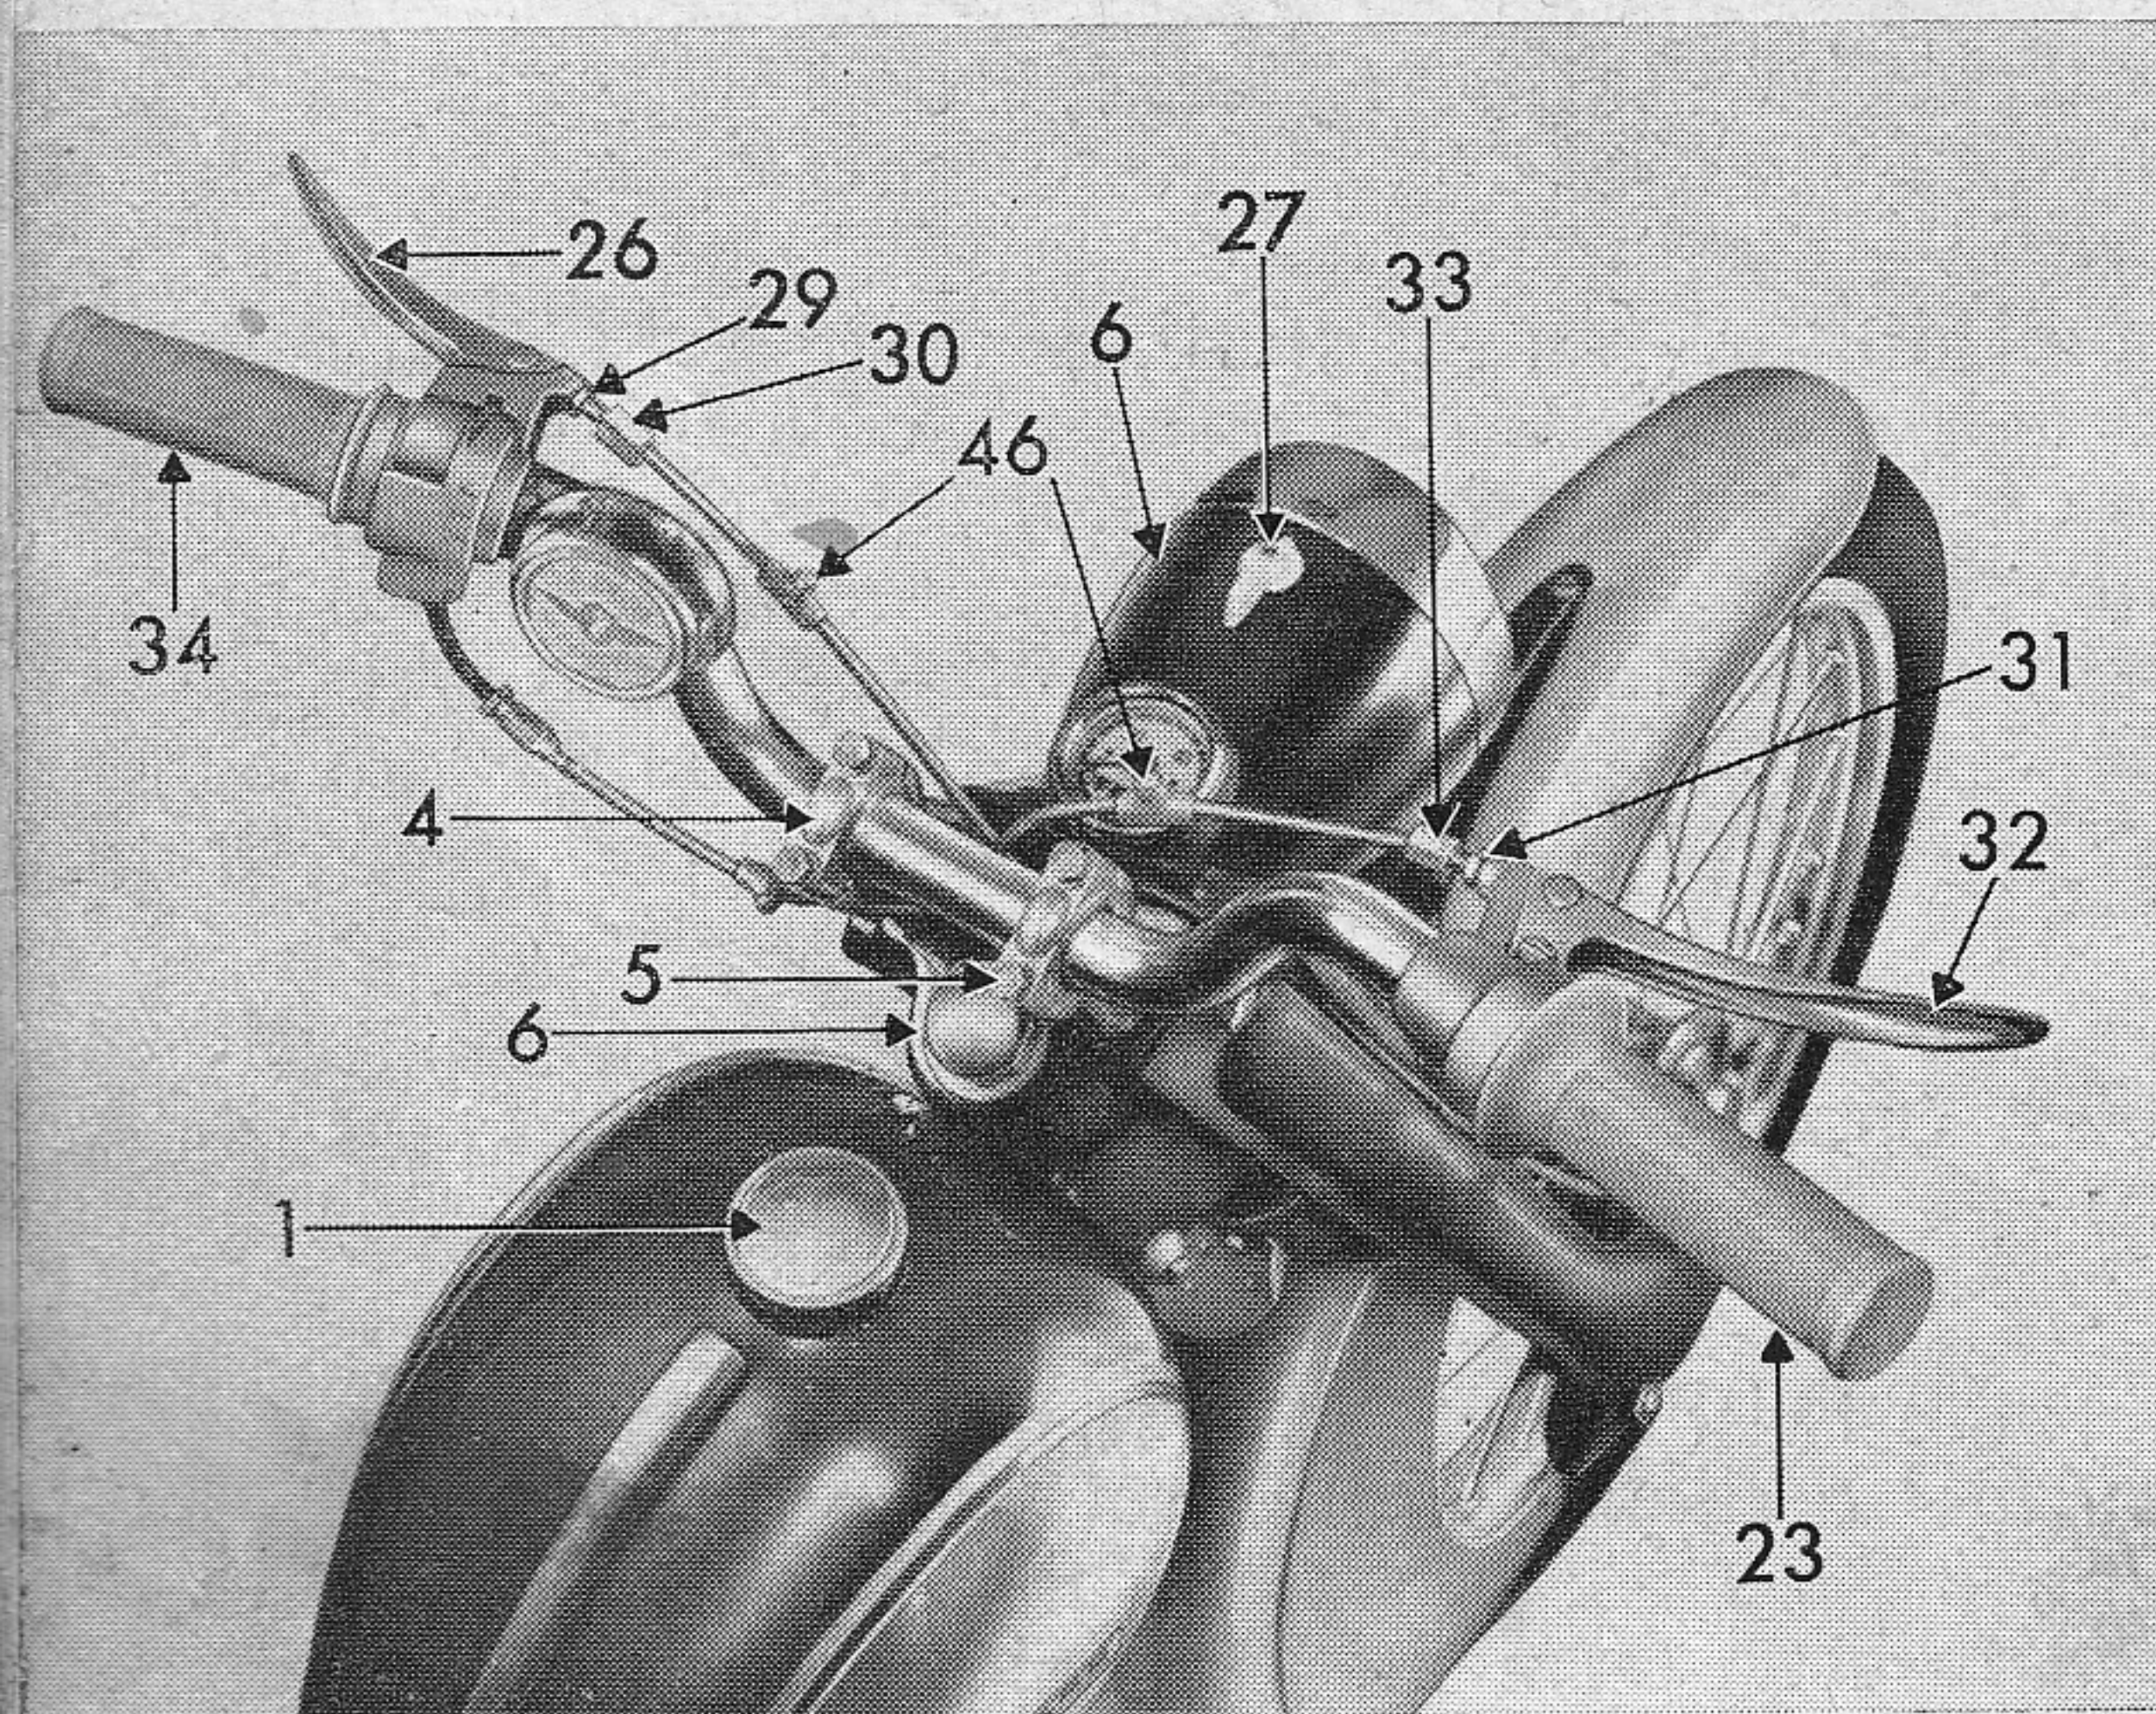

Fig. 5
- d) **The handlebar** (fig. 5) of your Combinette is mounted in two brackets 4, each with a clip. By slackening the four hexagon screws 5, it can be moved forward or back to increase or reduce the distance from the seat. After adjustment, firmly tighten screws on alternate corners.
3. Lighting (fig. 5)
2. The **clutch** must never be allowed to slip. Correctly set, the clutch lever 26 (fig. 5) should have an end play of approx. 0.4 in. at the outer lever tip when declutching (i. e. pulling the lever). Clutch cable play is adjusted by slackening hexagon nut 29 on clutch lever 26 and then tightening or slackening setscrew 30. To increase play, tighten the screw; to reduce play, slacken screw. After adjustment, re-tighten hexagon nut 29 against twist grip 34. If this adjustment proves insufficient, have the clutch reset at a **garage**.
This is done as follows (figs. 5 and 6):
11. **All Bowden cables** (fig. 5) should move freely in their outer casings. After the first three regulation services, they should be regularly lubricated. To do this, take off the small caps on the lubricating holes 46, then inject a little thin-flowing oil (such as grade SAE 40). Remember to replace the caps after lubrication.